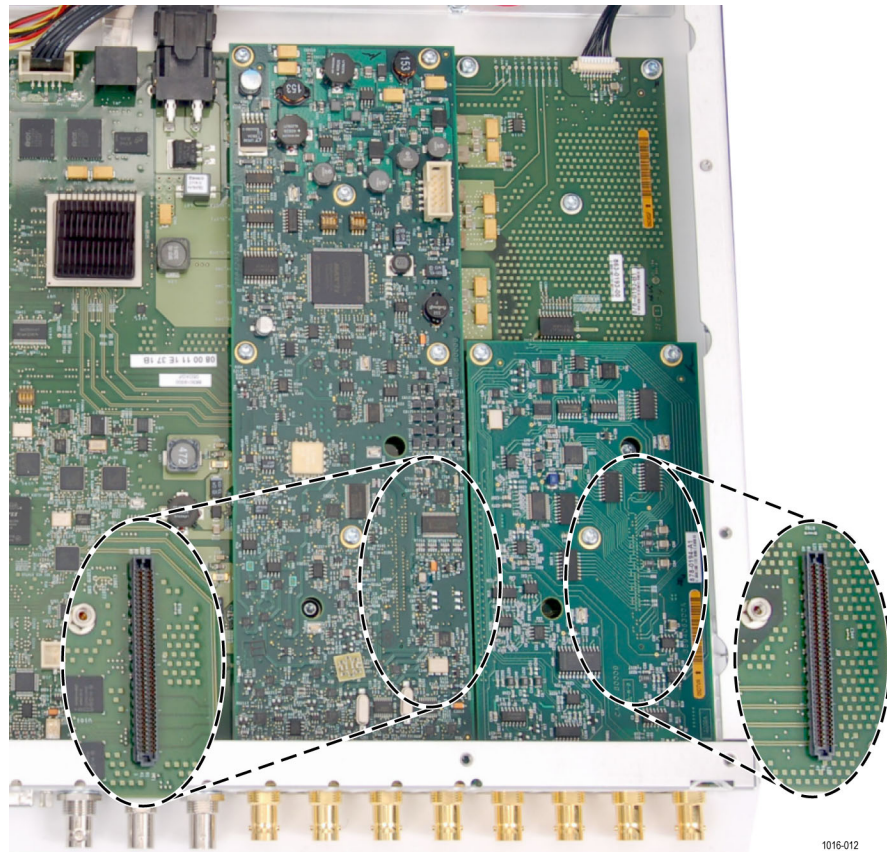

Figure 8: CPS board connector location
5. Make sure the connector on the bottom of the CPS board and main board line up. (See Figure 8.) Pressing only over the location of the connector, gently press the CPS board down until the connectors engage. The CPS board should sit firmly on all three posts.